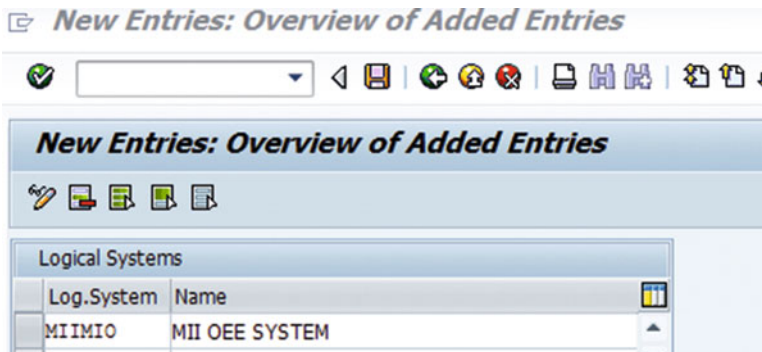

Figure 3-64. Create logical system
3. Enter the following data (refer to Figure 3-64).